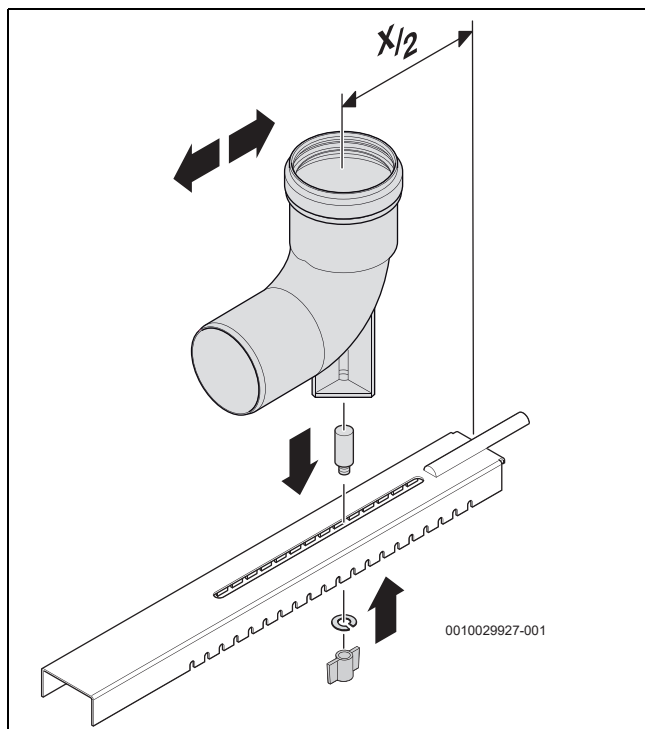

Fig. 10 Fitting the elbow to the support
- ▶ Position the elbow centrally on the elbow support at half of X as shown in fig. 10